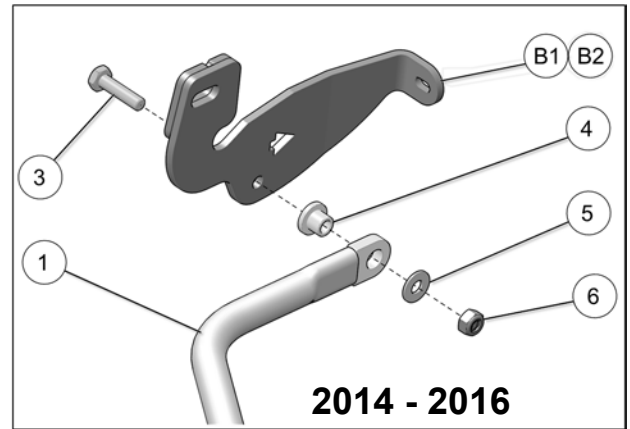

Fig. 11
11. Attach the rear suspension stabilizing rod (1) to anchor plate (B1-B2):
2014 to 2016 vehicle model years: use M10x40mm bolt (3), bushing (4), washer (5) and nut (6). Torque to 50 N•m [37 lb•ft]. Refer to Fig. 11